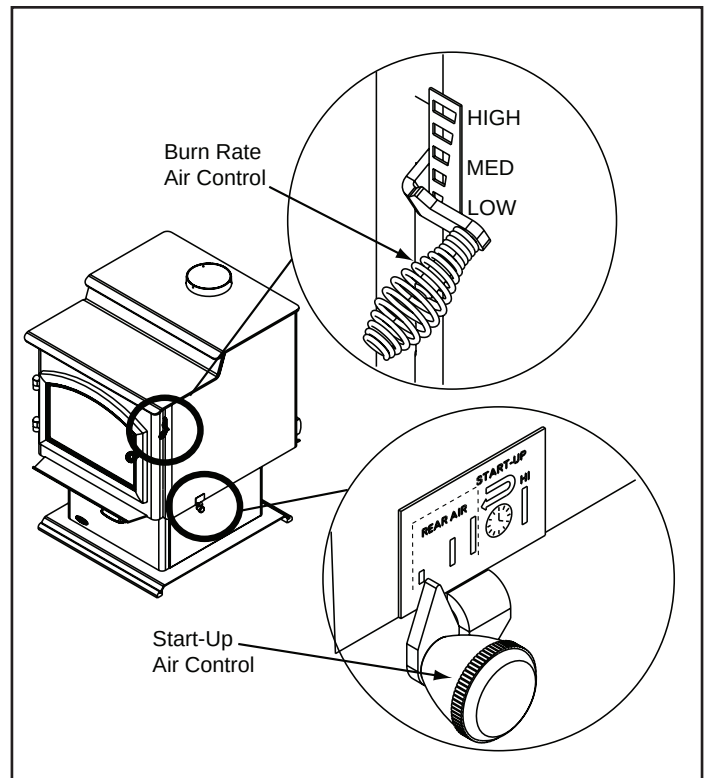

Figure 10.1 - Start-Up and Burn Rate Air Controls
The air control located at the upper right hand corner is used to adjust for burn rates. This is called the Burn Rate Air Control. **Figure 10.1 on page 10.**
- It is best to open the Burn Rate Air and Start-Up Air Controls **before reloading**. This livens up the coalbed and reduces excessive emissions (opacity/smoke). **Figure 10.1 on page 10.**
- Slide the Start-Up Air Control all the way back until it stops at the "HI" indicator on the label and then pull forward to the front of the appliance until it stops. **Figure 10.1.**
- The fire is now controlled by the air supplied by the Burn Rate Air Control. **Figure 10.1.**
- Slide the Start-Up Air Control between the first and third marker as indicated on the label to allow rear air to enter the firebox. **Figure 10.1.**